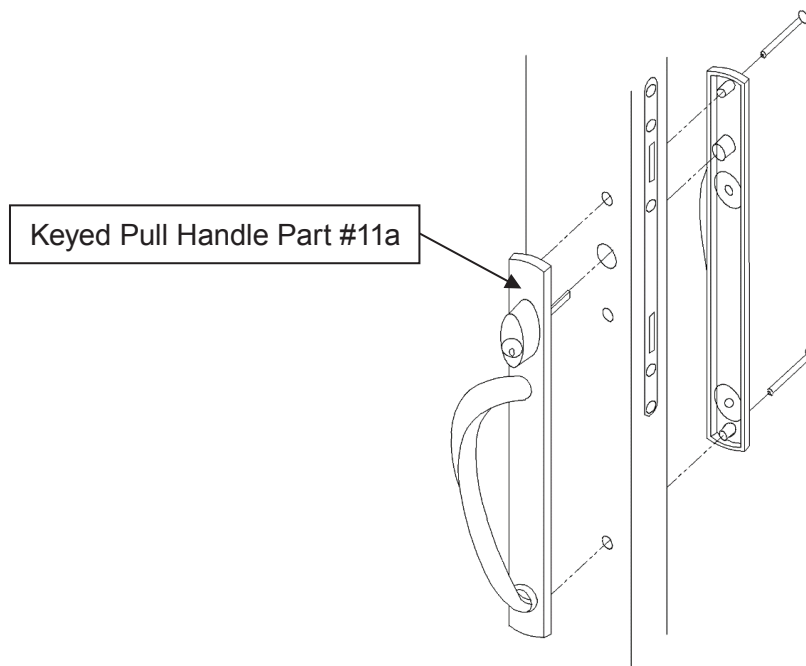

FIGURE 18
21. Install the pull handle (Part #11a, 11b, or 11c) by inserting the exterior and interior handle into the pre-drilled holes. Secure handle by installing the screws included with the handle kit on the interior side as shown in figure 18.